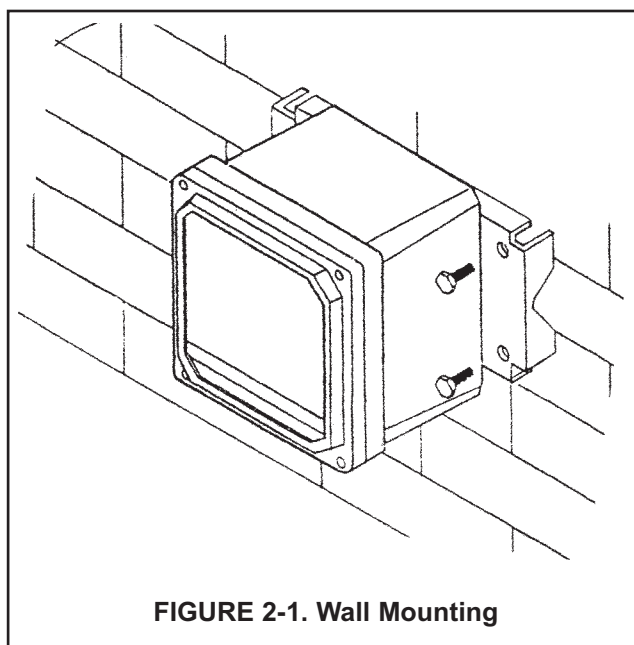

FIGURE 2-1. Wall Mounting
2. Mount controller mounting bracket to wall using any appropriate fastener such as screws, bolts, etc (see Figure 2-1 below).